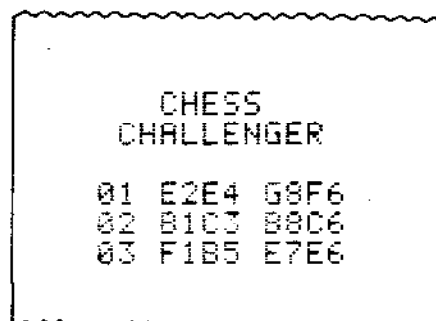

Figure 5.
The automatic function provides a continuous line-by-line printout of each pair of moves, numbered sequentially (01, 02, 03, etc., see Figure 5). Each line contains the move number, white's move (From and To) and black's move (From and To).
When **RESET** is pressed on the chess game, the Printer will restart the printout sequence for a new game by printing the words **CHES** **CHALLENGER** (Figure 5).
D. Put the paper spindle into the paper roll as shown in Figure 5, and place the roll with the spindle onto the grooves near the back of the printer. Turn the paper roll so as to take-up any slack in the paper feeding to the printer. Make sure the roll of paper turns freely. If it does not turn freely, the paper will jam and will possibly damage the print mechanism.